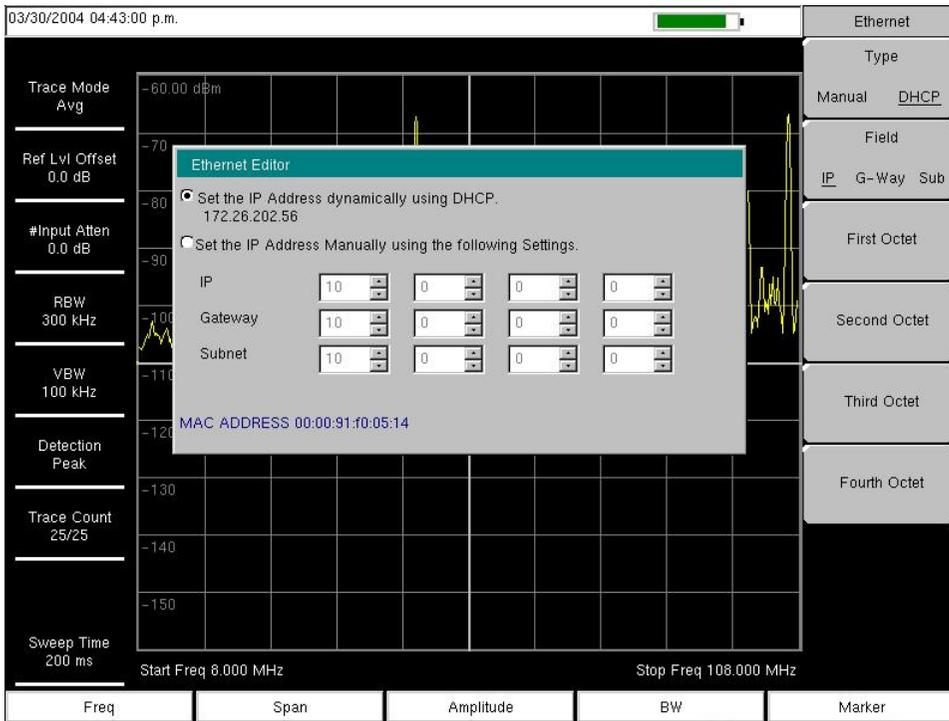

Figure C-1. IP Address Assigned Using DHCP
To display the IP address with the instrument on, press the **Shift** key, then the **System** (8) key, then the **System Options** submenu key and the **Ethernet Config** submenu key. The IP address will be displayed as shown in **Figure C-1**. The image on the display panel of your Spectrum Master may differ from the image shown here.